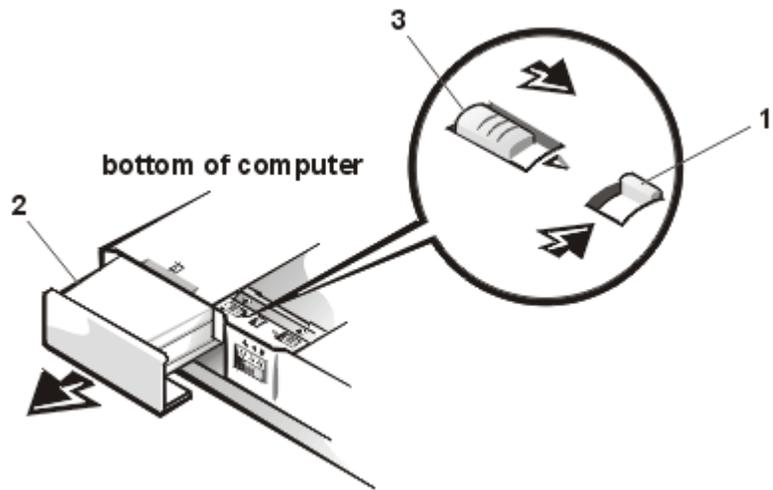

Figure 3. Battery Compartment
5. Remove the main battery from the battery compartment (see Figure 3).